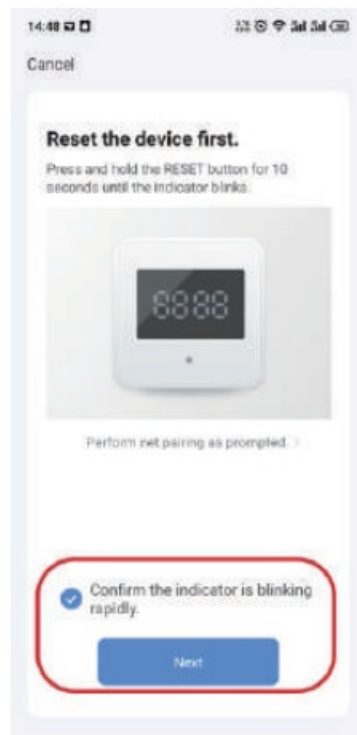
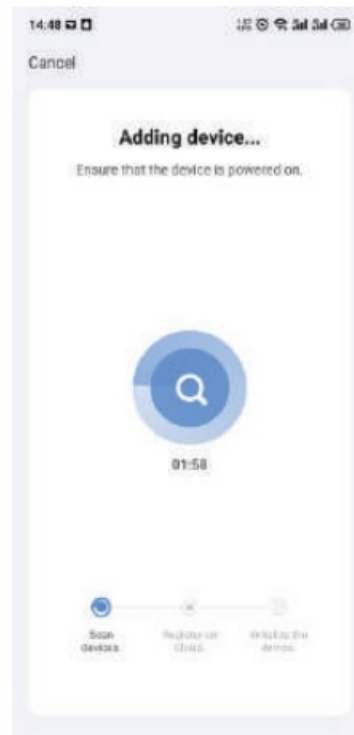

Fig3.7
Fig3.8
- When the thermostat is off, press and hold the “down button” until the thermostat screen flashes quickly and displays the “ZigBee” icon, and then operate according to the following figure (Fig3.7-Fig3.8).